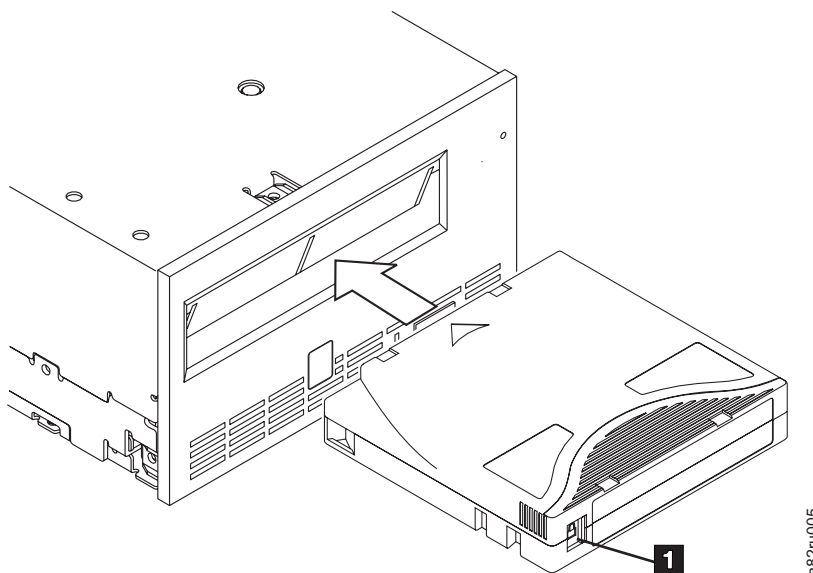

Figure D-2. Inserting a cartridge into the drive
3. Grasp the cartridge so that the write-protect switch faces you (see **1** in Figure D-2 on page D-5).